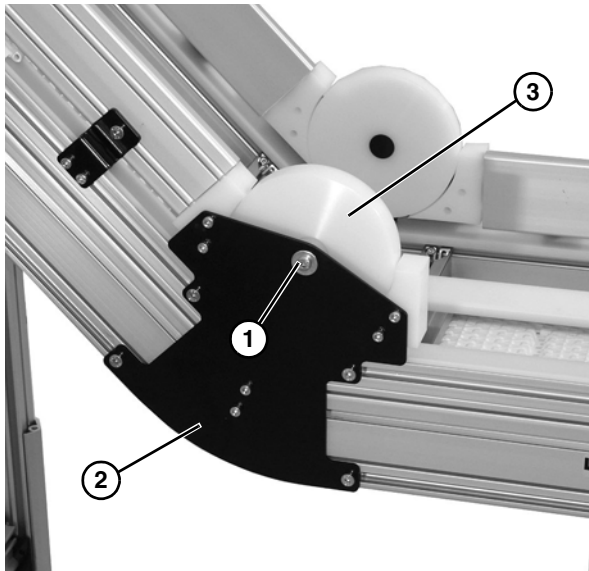

Figure 63
1. Remove cap screw (**Figure 63, item 1**), washer, and spacer on side of lower knuckle assembly (**Figure 63, item 2**), and remove hold down guide (**Figure 63, item 3**). Repeat on opposite side.